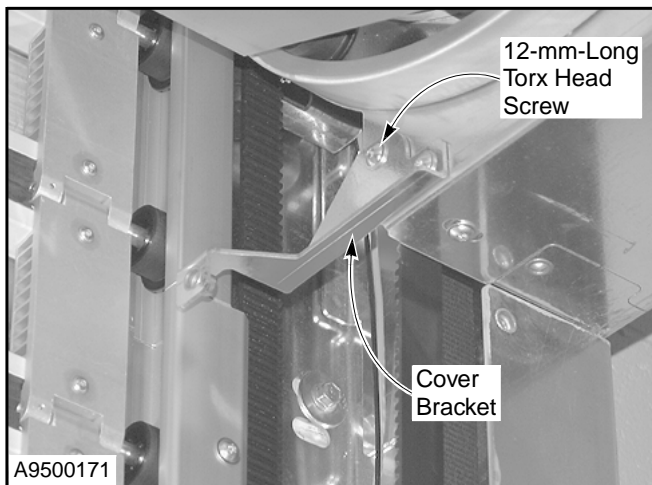

Figure 60
4. Mount the left- and right-hand cover brackets to the side columns. These brackets are located in the small parts carton and are held in place with two, 12-mm-long, Torx head screws. (See Figure 60.)